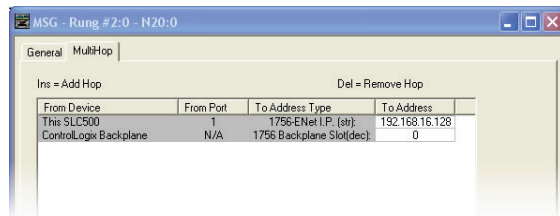

Figure 72: MSG Configuration, "MultiHop" Tab
- e) Under the “MultiHop” tab settings, set the “To Address” in the first row to the inverter’s IP address, and the “To Address” in the second row to 0. Refer to Figure 72.